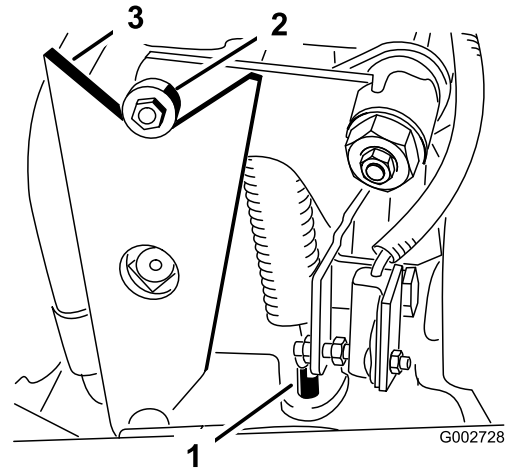

Figure 42
- If the wheels rotate in the proper direction, stop the engine and adjust the spring adjusting pin locknut (Figure 42). Adjust the traction neutral position; refer to Adjusting the Traction Drive for Neutral.